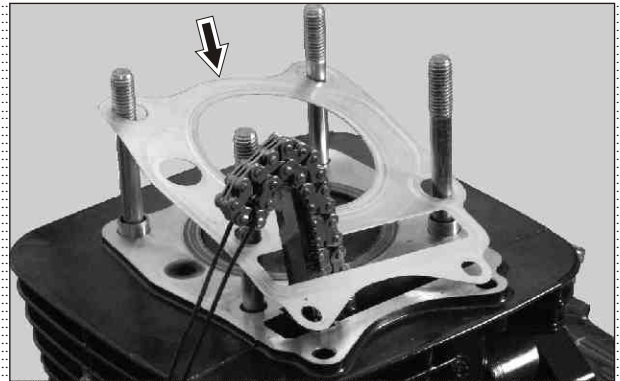

Fig. 3.83
- Take out gasket cylinder head. (Fig. 3.83)